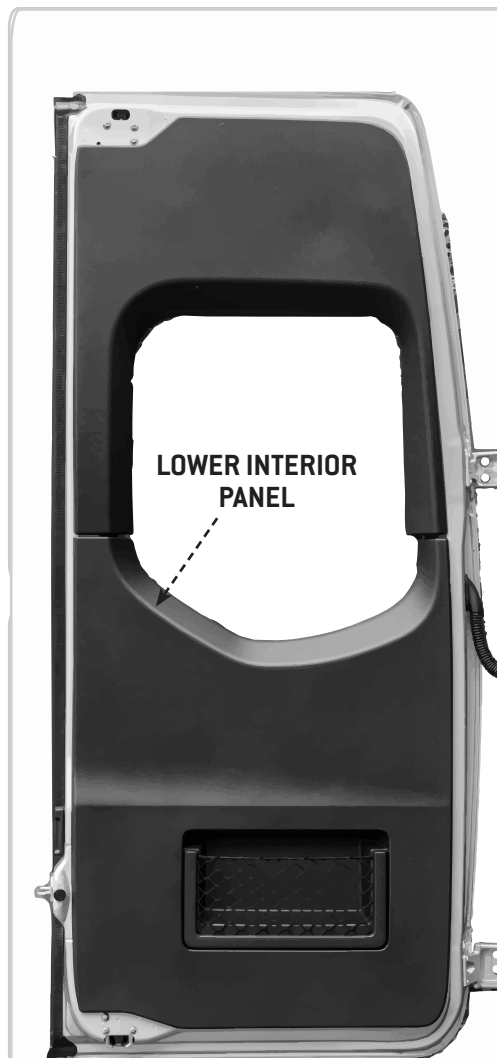
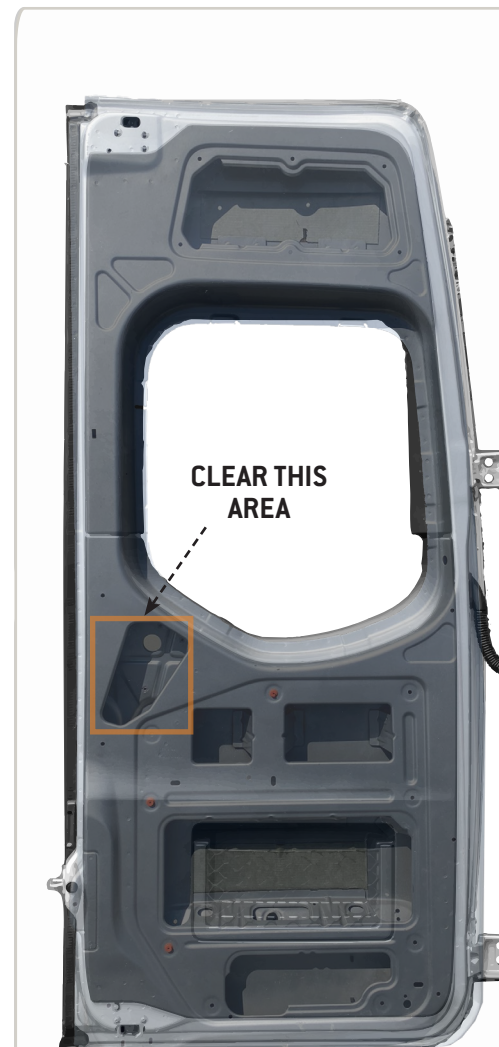

FIG 1
FIG 2
**1.1 Door Panel Removal:** If applicable, start by removing the lower interior door panel (**FIG 1**) and any obstructions in the area shown in **FIG 2** (wires, insulation, etc.). We recommend using plastic panel removal tools (easily found at harbor freight or similar). Be gentle when prying as to not break the factory panel clips. Once you get the first few popped you should be able to pull it the rest of the way with your hands.
**NOTE-** You may have any number of different door configurations- stock full trim (**Pictured FIG 1**), stock half trim, stock panel, upholstered wood, etc. Each require their own removal method. Please note that the panel-style trimmed door requires additional drilling and the use of the provided **panel plug** (**See Step 2.5**).